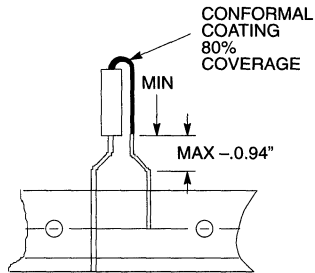

Figure 4
When ordering radial tape in fan fold box or on reel, specify the style per Figures 4 through 13. Add the appropriate suffix per Tables A and B as listed below:
- RR1 Euroform radial format and reeled per Figures 4, 6, 9, 10. Polarity band up with cathode lead off first.
- RR2 Euroform radial format and reeled per Figures 4, 6, 9, 10. Polarity band down with anode lead off first.
- RB1 Euroform radial lead form with polarity band up per Figures 4, 12 and bulk packed.
- RB2 Euroform radial lead form with polarity band down per Figures 4, 13 and bulk packed.
- RA1 Euroform radial format and ammo packed per Figures 4, 10, 11. Polarity band up with cathode lead off first.
- RA2 Euroform radial format and ammo packed per Figures 4, 10, 11. Polarity band down with anode lead off first.